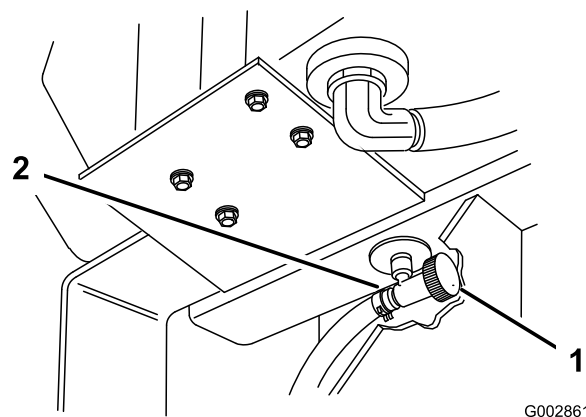

Figure 26
2. Close the fuel shut-off valve at the fuel tank (Figure 26).
2. Close fuel shut-off valve at the fuel tank (Figure 26).
6. Open fuel shut-off valve at fuel tank (Figure 26).